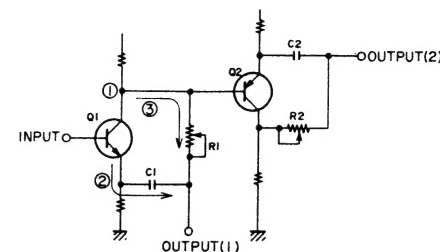
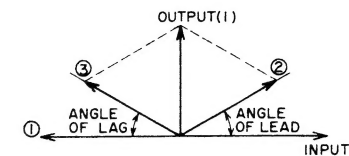

Fig. 20
Fig. 21
As can be seen from Fig. 20, when the reverse of the input signal ① is passed through an integration circuit consisting of R1 and C1, phase lag occurs as illustrated at ③ in Fig. 21. On the other hand, the input signal is passed through the EF circuit and then through a differential circuit consisting of C1 and R1, resulting in the signal phase as illustrated at ②. Thus, the resultant output is as shown in Fig. 21; i.e., the signal that has a phase lead of 90° over the input is obtained. In the similar manner, for output ②, the signal which has a phase lag of 90° with reference to the input is obtained.